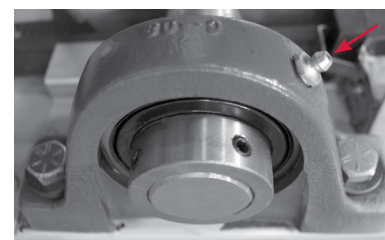

FIGURE 21. Pump grease into two rotor bearing grease points, one on each side of the rotor.
- 1) Pump grease into the two rotor bearing grease fittings using a high quality NLGI No. 2 grease (See **FIGURE 21**).